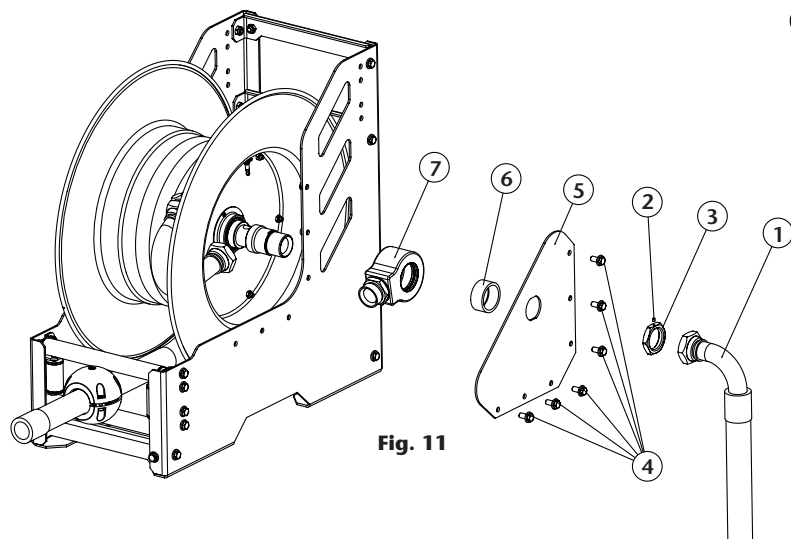

Fig. 11
2. Loosen the set screw in the nut (2) and remove said nut (3) (fig. 11).
3. Remove the screws (4) and the lateral cover (5) and the spacer tube (6) (fig. 11).
5. Remove the swivel (7) (fig. 11 & 12) and replace it with a new one, or replace the seals (8) (fig. 12). Make sure the seals are placed correctly.